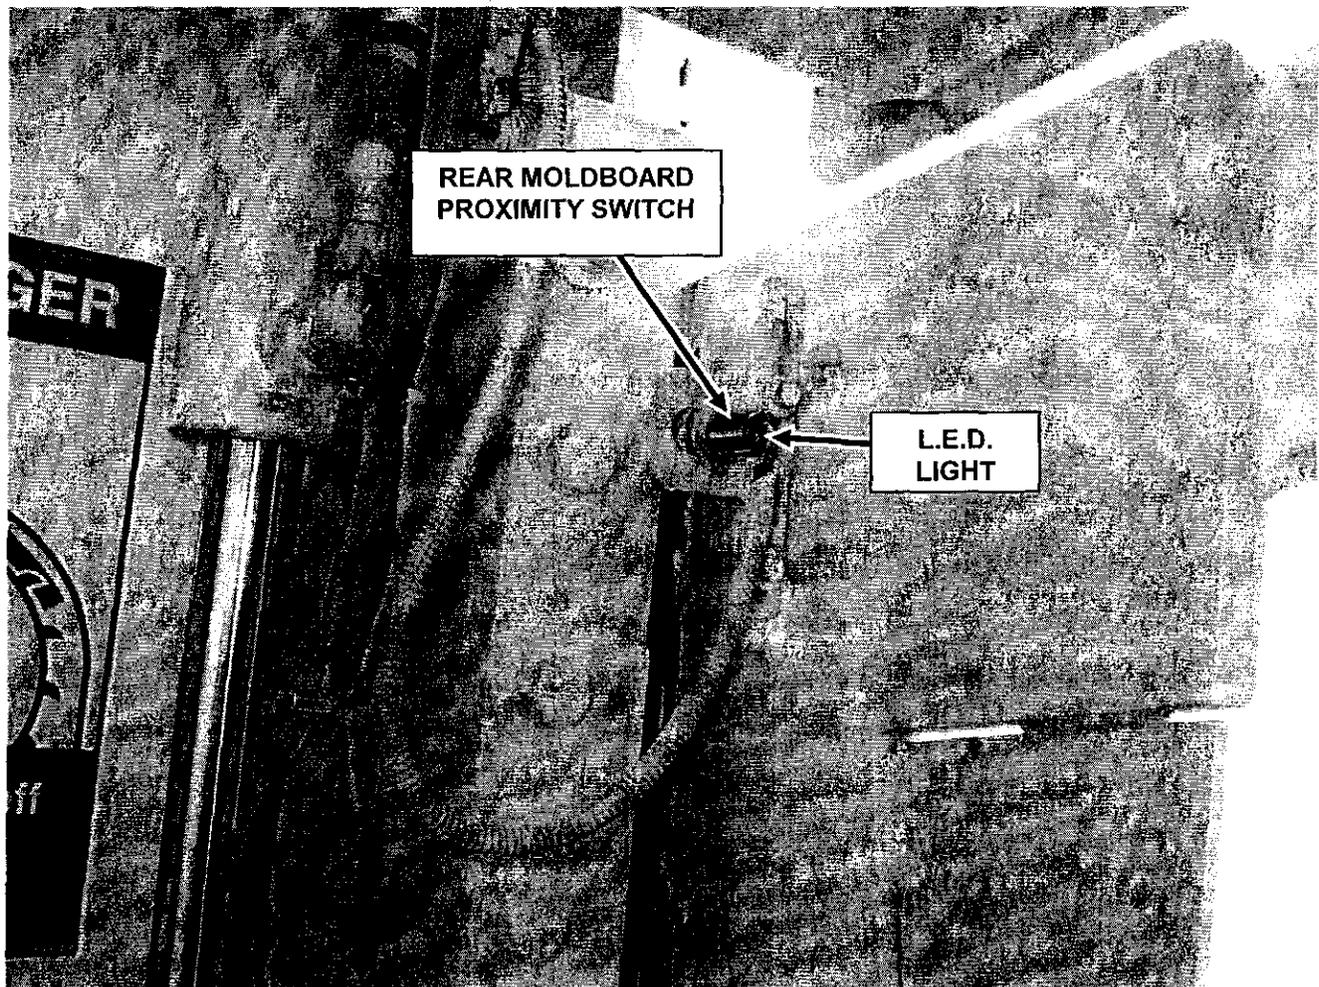

FIGURE 15
3. Turn the adjustment nuts on the proximity switch until the L.E.D. light, located on the back of the switch, comes "ON" (Figure 15).